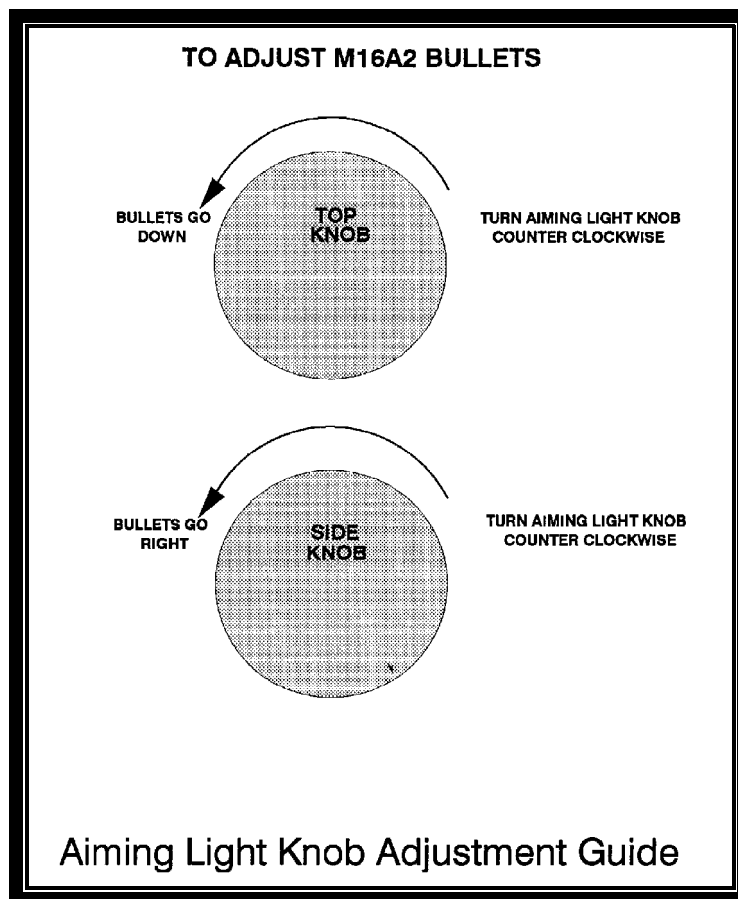

Figure 10
(5) ***Aiming light knob adjustments.*** The last step in preparation for zeroing is to make a training aid for showing which direction to turn the aiming light knobs to adjust bullets on the bullet impact point. Experience has shown that the markings on the aiming light knobs can be misinterpreted. Bullets can suddenly go off the zero target, off the E-silhouette, or in the wrong direction because the aiming light was adjusted incorrectly. A training aid shown in Figure 10 helps to correct this problem.